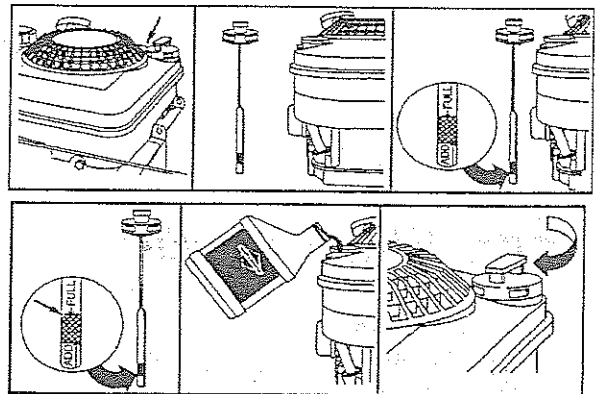

Figure 1
2. Check oil and fill according to the engine owner's manual (See Figure 1).